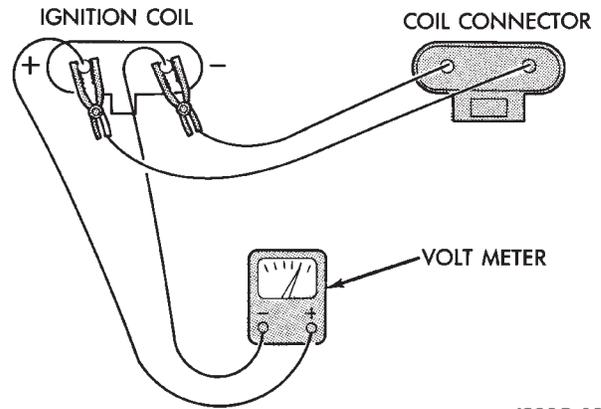

Fig. 15 Coil Terminals—Typical
(2) Connect a set of small jumper wires (18 gauge or smaller) between the ignition coil and coil electrical connector (Fig. 15).
(3) Determine that sufficient battery voltage (12.4 volts) is present for the starting and ignition systems.
(4) Crank the engine for 5 seconds while monitoring the voltage at the coil positive terminal: